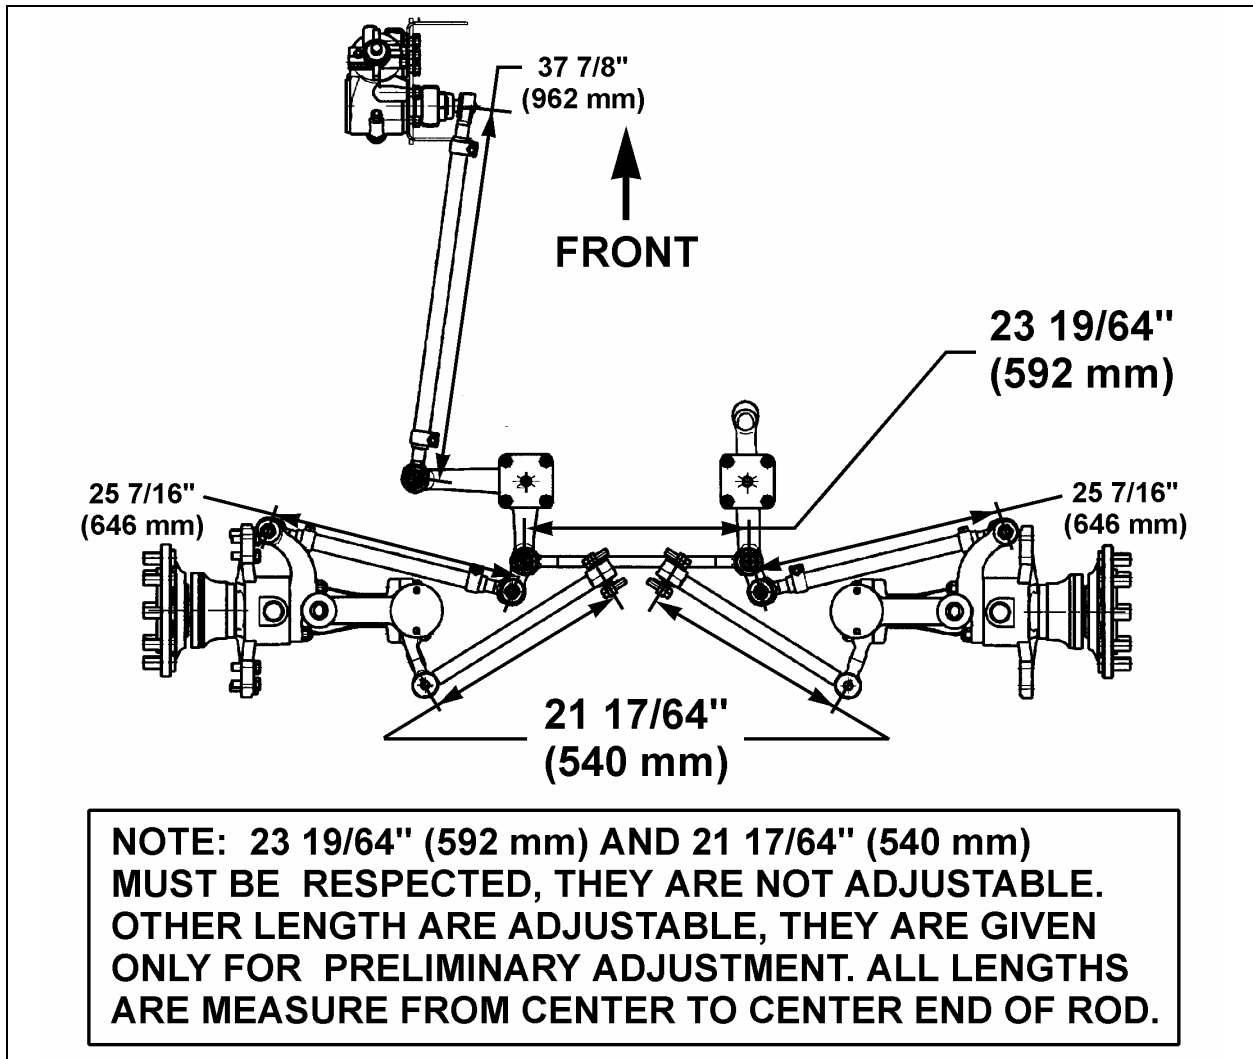

FIGURE 18: STEERING LINKAGE MEASURE
The amount the wheels are inclined from the vertical plane (A, Fig. 18).
The distance the front wheels are closer together at the front than at the rear of the tires (D minus E, Fig. 18).
The inclination of the king pin from vertical toward the center of the vehicle at the top and outward at the bottom (B, Fig. 18).
The inclination of the king pin from vertical in the fore and aft direction (C, Fig. 18).
7. Check if the length of the torque rod is 21 17/64" (540 mm) (Fig. 18). Check if the length of the relay rod is 23 19/64" (592 mm).